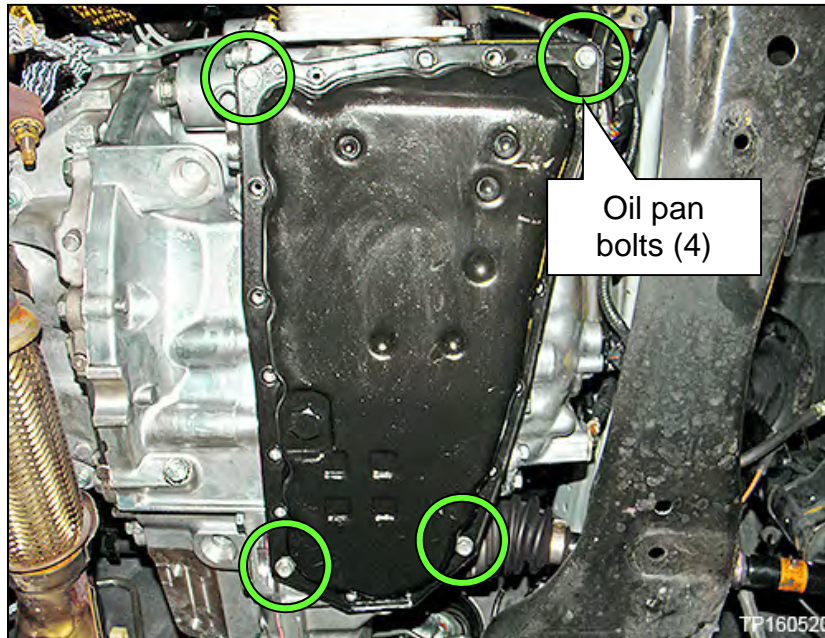

Figure 24
9. Temporarily install the oil pan gasket and oil pan with four (4) oil pan bolts at the corners of the oil pan, hand tight (Figure 24).